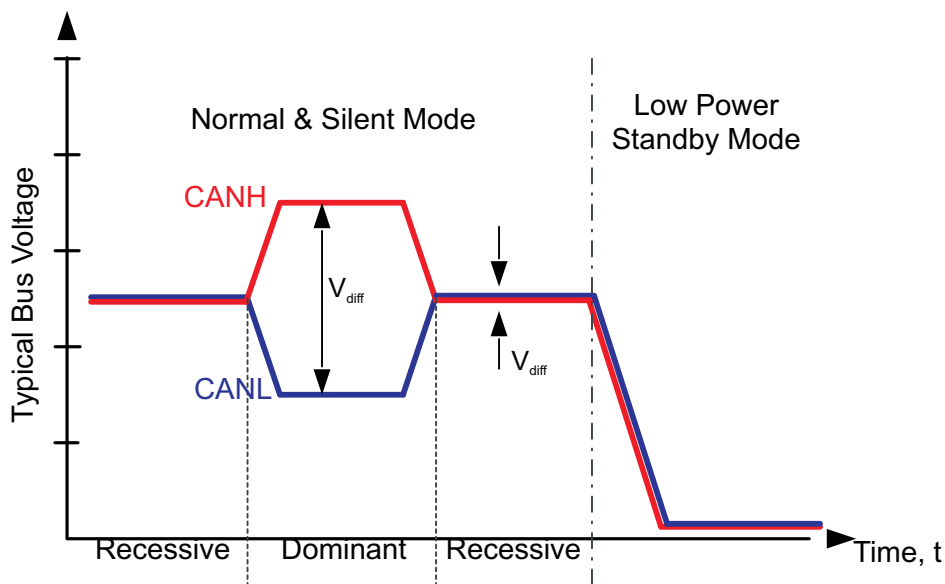
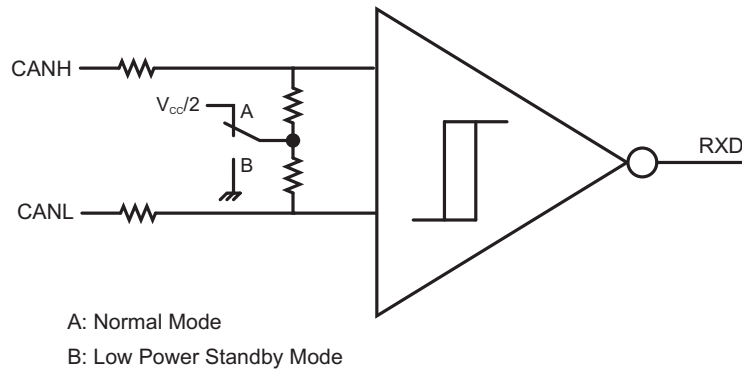

Figure 16. Bus States (Physical Bit Representation)
Figure 17. Simplified Common-Mode Bias and Receiver Implementation
Both of the supply pins have undervoltage detection, which places the device in forced standby mode to protect the bus during an undervoltage event on either the V_{CC} or V_{IO} supply pins. If V_{IO} is undervoltage, the RXD pin is forced to the high-impedance state and the device does not pass any wake-up signals from the bus to the RXD pin. Because the device is placed into forced standby mode, the CAN bus pins have a common-mode bias to ground, protecting the CAN network; see Figure 16 and Figure 17.
(1) See Figure 16 and Figure 17 for common-mode bias information.
This is the low-power mode of the device. Standby mode is selected by setting STB high. The CAN driver and main receiver are turned off and bidirectional CAN communication is not possible. The low-power receiver and bus monitor, both supplied through the V_{IO} supply, are enabled to allow for RXD wake-up requests through the CAN bus. The V_{CC} (5-V) supply may be turned off for additional power savings at the system level. A wake-up request is output to RXD (driven low) for any dominant bus transmissions longer than the filter time t_{BUS} . The local protocol controller (MCU) must monitor RXD for transitions and then reactivate the device to normal mode based on the wake-up request. The 5-V (V_{CC}) supply must be reactivated by the local protocol controller to resume normal mode if it has been turned off for low-power standby operation. The CAN bus pins are weakly pulled to GND, see Figure 16 and Figure 17.
- (1) H = high level, L = low level, X = irrelevant, Y = common-mode bias to GND, Z = common-mode bias to $V_{CC} / 2$. See Figure 16 and Figure 17 for common-mode bias information.
(2) HVDA551 and HVDA553 have internal pullup to V_{IO} on the STB pin. If the STB pin is open, the pin is pulled high and the device is in standby mode.